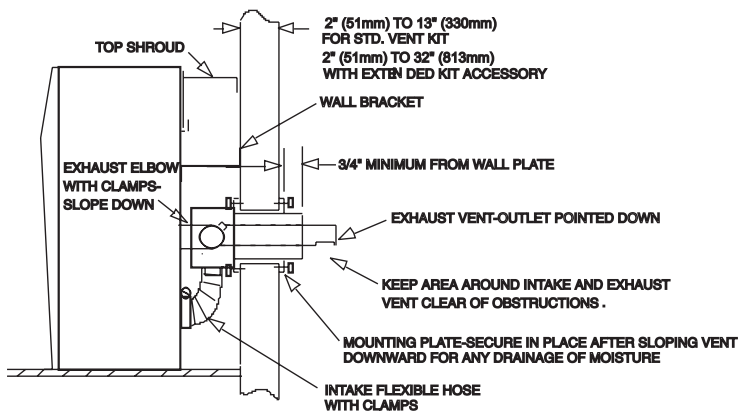

Figure 4
To complete inside installation, secure furnace to the wall bracket by attaching the two wall mounting brackets to the wall bracket by using (2) 10 x 1/2" (13mm) hex-head screws provided (See Figures 4 and 6). To attach the right shroud and left shroud to the casing back, the 3/4" wide flange on the shroud must be positioned toward the casing side. When positioned correctly, the (6) louvers on the shroud will be facing up and the knock-out on the shroud will be facing down. Attach the right shroud and left shroud to the casing back with (3) 10 x 1/2" hex-head screws supplied in hardware package, for each shroud. Attach top shroud to right shroud and left shroud with (4) Phillips-head screws, supplied in hardware package. Insert air filter into top shroud.